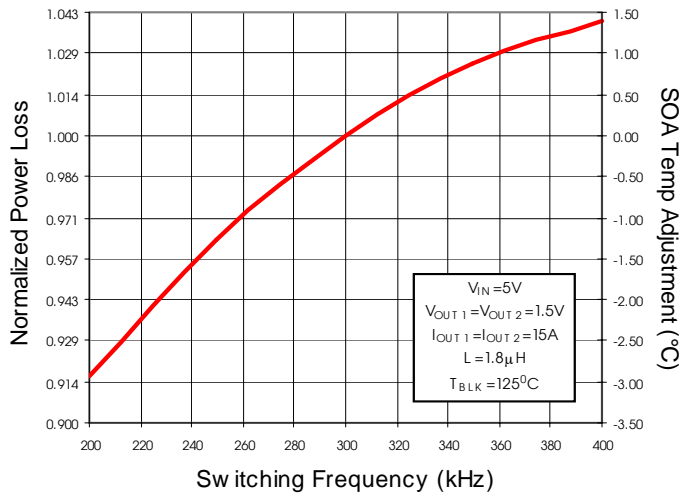

Fig. 6: Normalized Power Loss vs. Frequency
(Fig. 6) Normalized power loss for frequency ≈ 0.918
- (Fig. 6) Normalized power loss for frequency ≈ 0.918
- (Fig. 6) Normalized SOA Temperature for frequency $\approx -2.9^{\circ}C$